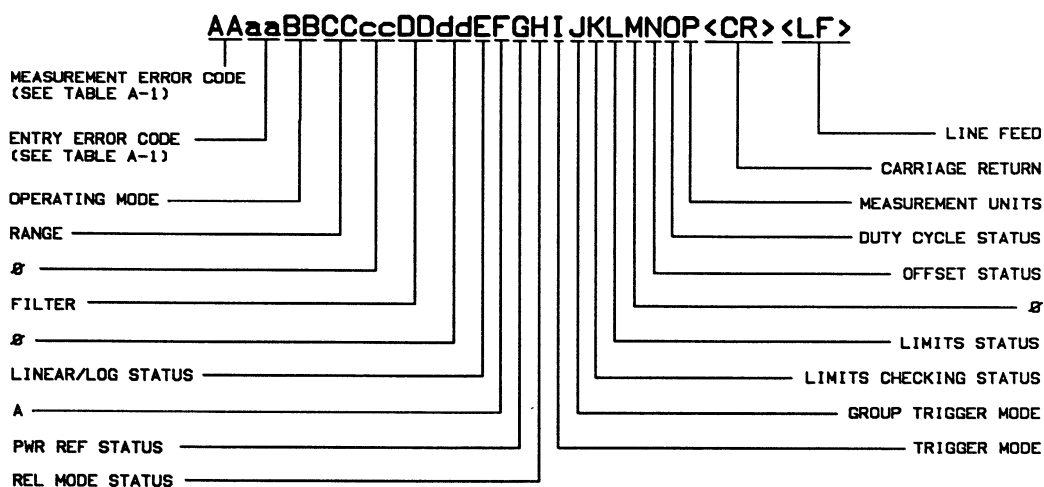

Figure 3-5. Status Message Format
Status Message. This function enables the power meter's current state to be read under program control. After receiving an SM program code (Status Message) and when addressed to talk, the power meter sends a string of 26 ASCII characters followed by a carriage return (CR) and a line feed (LF). With the last byte of the string, the power meter sets the EOI line true. The Status Message is updated only after a measurement. The Status Message can be interpreted with the information shown in Figure 3-5 and Table 3-3.